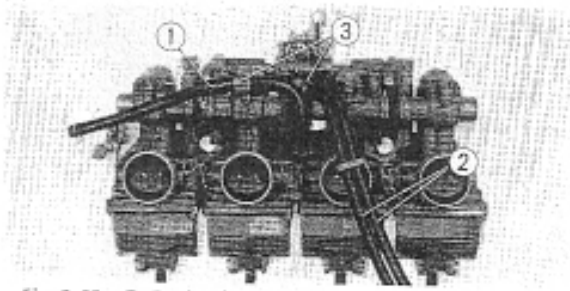

Fig. 3-92 ① Fuel tube ③ Clips
- Install and route each carburetor tube as shown in Fig. 3-92.
- Move the throttle lever until it contacts the adjusting screw, and check the throttle valve-to-throttle bore clearance (L). If out of specification (0~1.0 mm/0~0.04 in.), adjust the clearance by means of the adjusting screw.